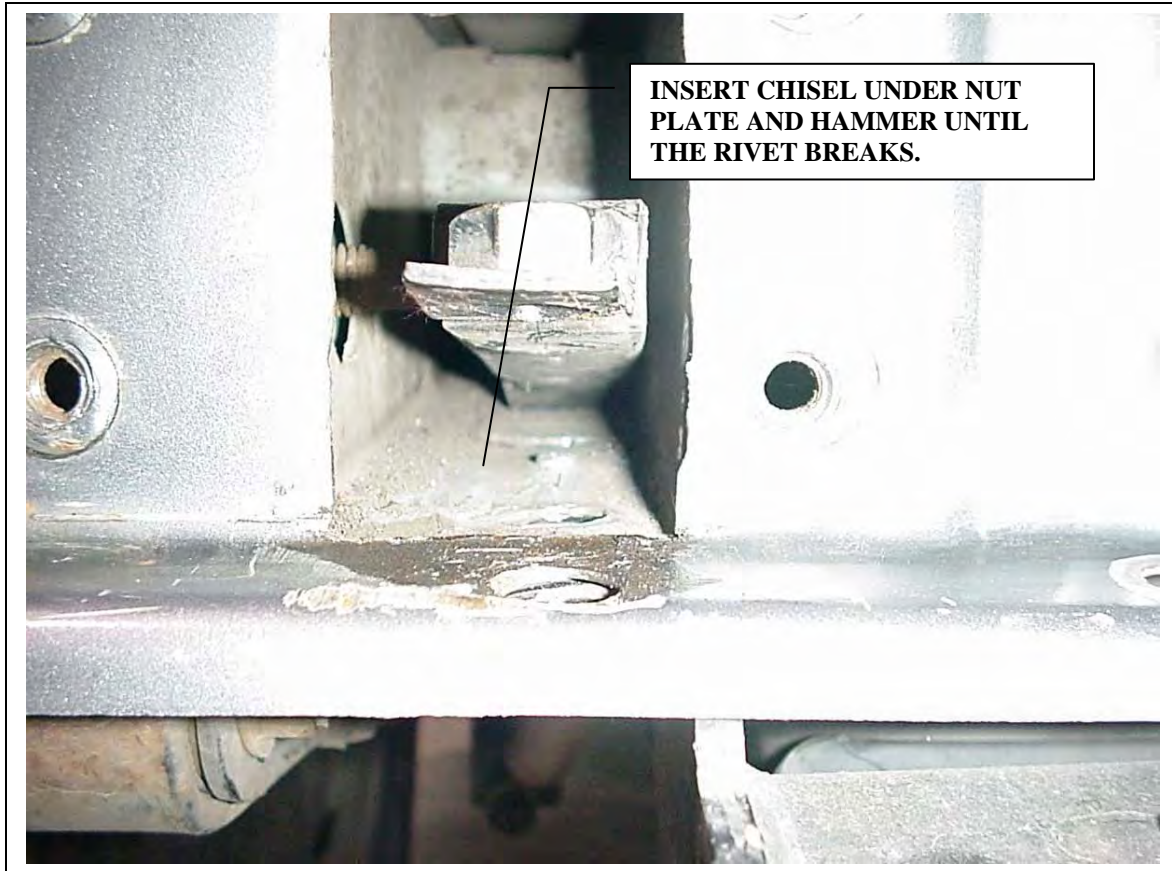

Figure 3, Factory Nut Plates
4. After removing the bolts, pry up the nut plate located inside the sub-frame. This plate is riveted to the bottom of the sub-frame. Use a chisel and hammer to break the rivet. Install the frame brackets between the nut plate and the frame. Be sure that the remaining part of the rivet is flush with the bottom of the sub-frame. **See Figure 3.**